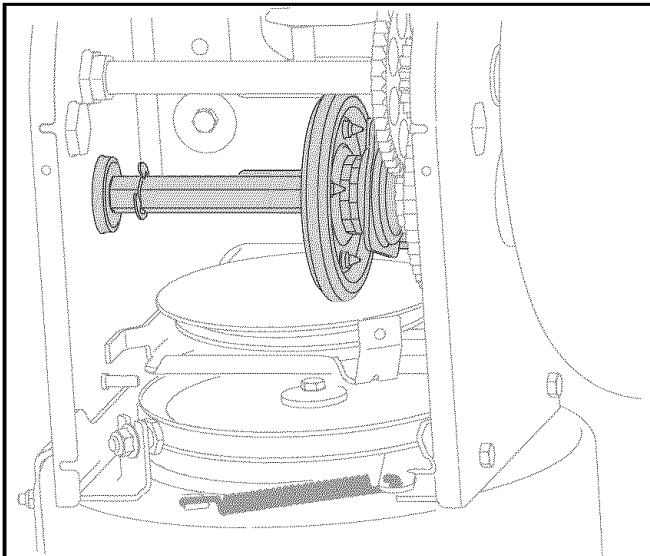

Figure 6
- Apply a light coating of an all-weather multi-purpose grease to the hex shaft. See Figure 6.